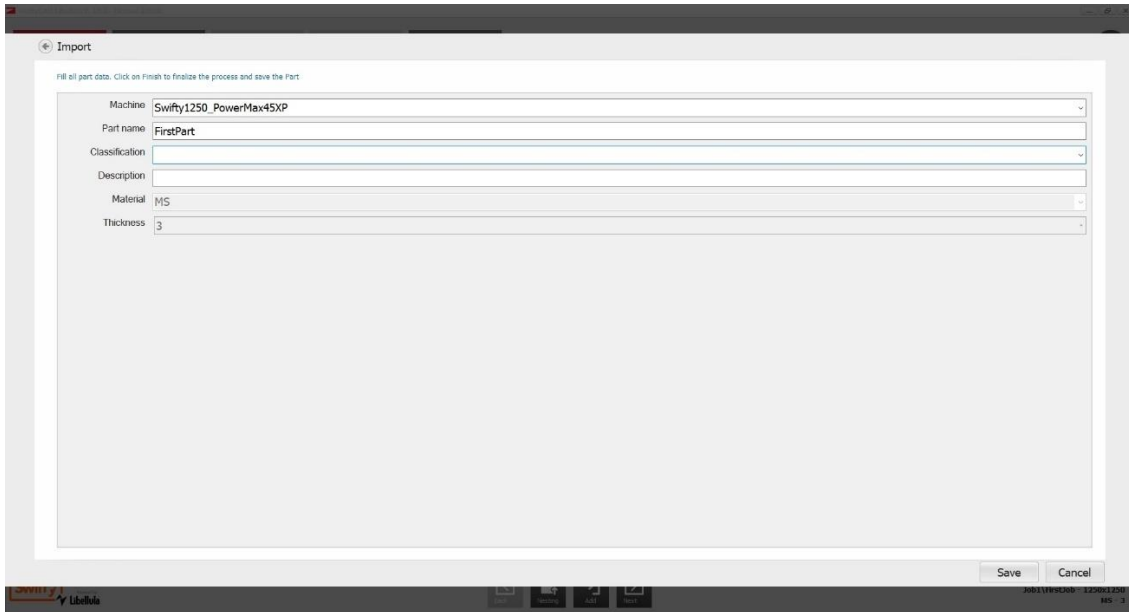

Fig 51 Part data screen
8. In the subsequent screen, fill in all of the fields (Fig 51). Some fields will be automatically populated. This is the information that the part will get saved in the parts library.